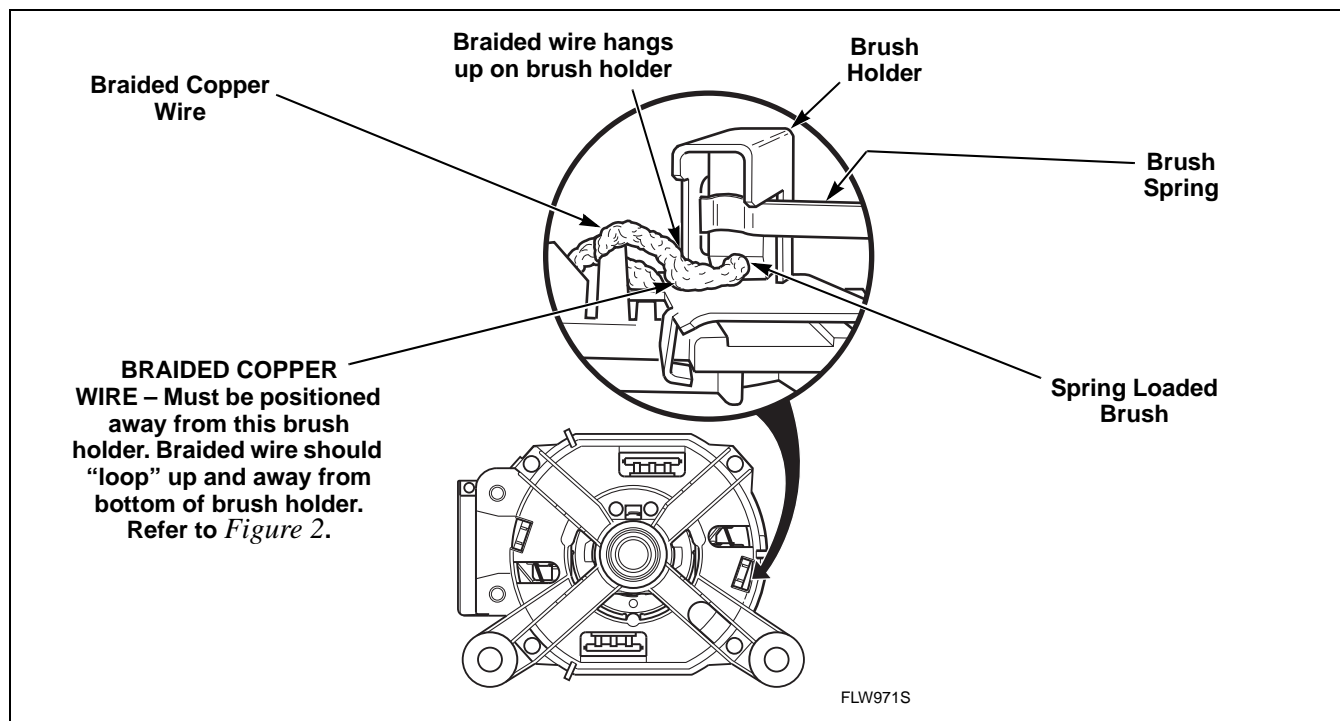

Figure 12
- Using a flashlight, view brushes through holes in motor end shield. Refer to *Figure 12*.
- Inspect both brushes to determine if either brush braided wire is binding the brush movement. The braided wire might be snagged on the seam in the corner of the metal brush holder. Refer to *Figure 12*.